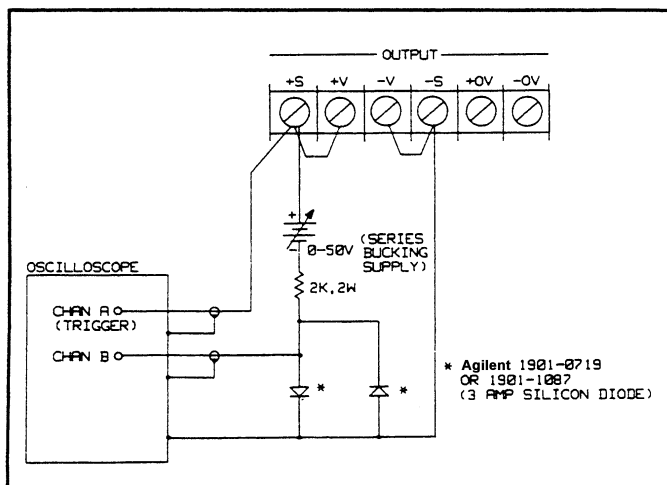

Figure 3-9. CV UP Programming Speed Test Setup.
- a. Turn off the supply and connect the output to be tested as shown in Figure 3-9.
Scale. The diodes (see Figure 3-9) prevent gross overload of Channel B (which is set at 50 mV division) allowing examination of the “tail” of the exponential waveform. The output voltage should be within 50 mV of its final settling value on the top horizontal line is less than 6 msec.